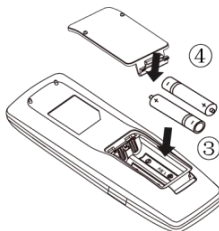

Fig.2
- (3) Place two (AAA 1.5) dry batteries, and make sure the position of polar + and - polar is correct (as shown in Fig 2③).
- (4) Reinstall the cover (as shown in Fig 2④).